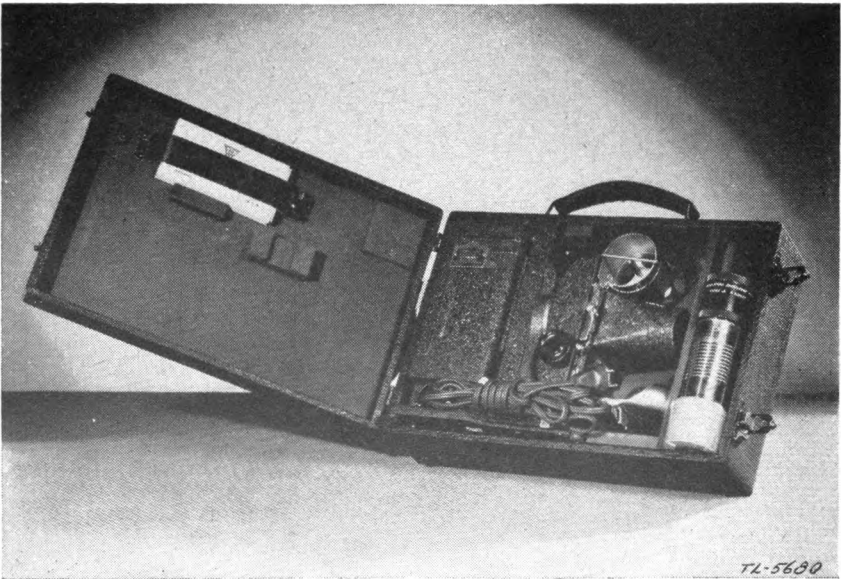

FIGURE 68.—Projector PH-222—encased.
**19. Setting up for operation.**—*a.* Projector PH-222 is issued complete in a single case (fig. 68).